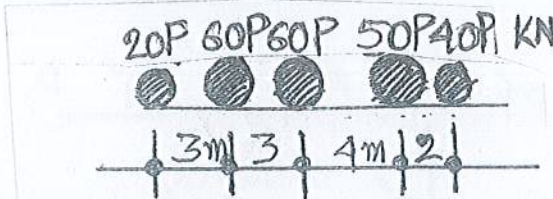

Fig.2
3. Draw the Influence line, find the wheel position & then calculate the maximum shear force at a section 8m from the left support A of a simply supported beam of 30 m for the wheel load arrangement shown in Fig. 2, where $P = 2$, if roll is even or $P = 3$, if the roll is Odd. (14)
7. Fig. 2 shows a reinforced concrete gallery-slab of span $L = (20 + 0.1R_0)$ ft, in a football stadium.